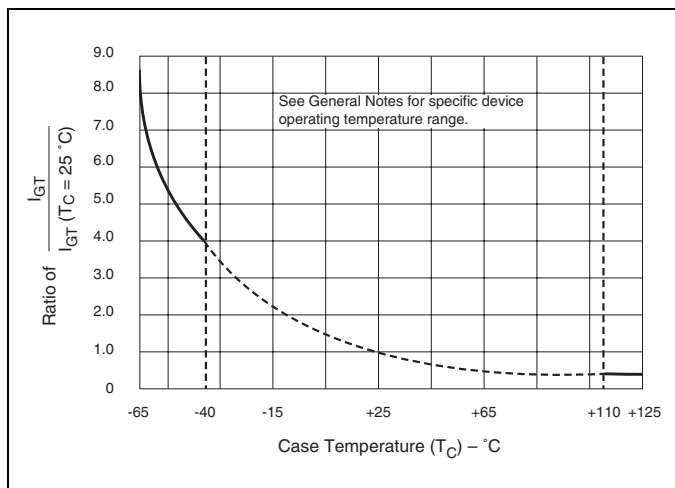

Figure E5.10 Normalized DC Gate-Trigger Current versus Case Temperature
- See Figure E5.10 for IGT versus TC or TL.